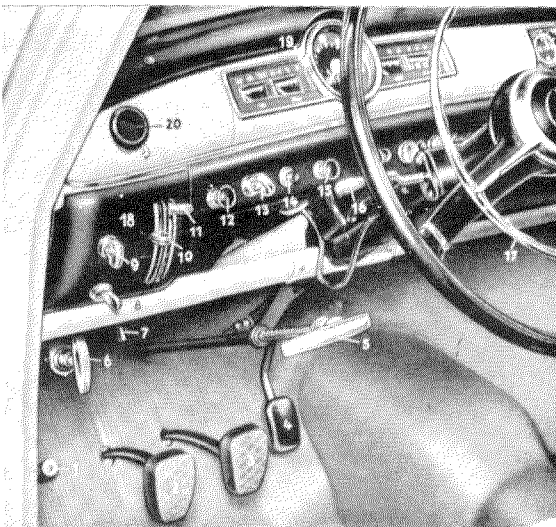

Fig. 82—15/1
2. Pull out the rotary light switch (9) control knob and use Hooked Wrench 136 589 02 05 to loosen the escutcheon plate (Fig. 82—15/1).